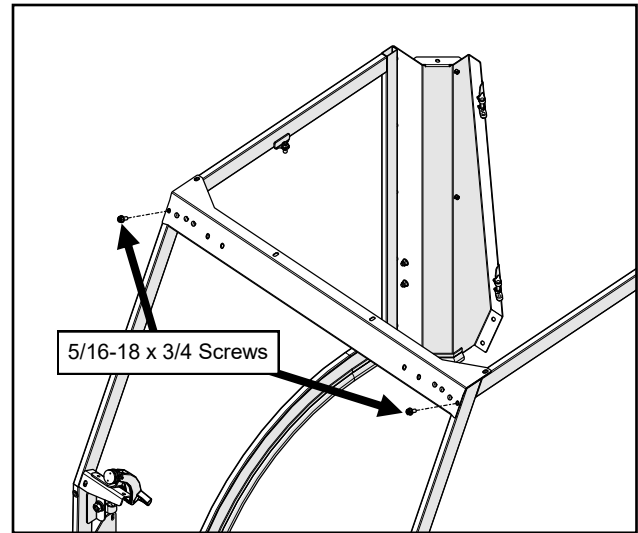

Fig. 5.1 (Install Windshield Support)
- 5.1 With assistance, hold the windshield support in place and attach with a screw to the front of each side frame. See Figure 5.1. Do not screw in the top at this point.